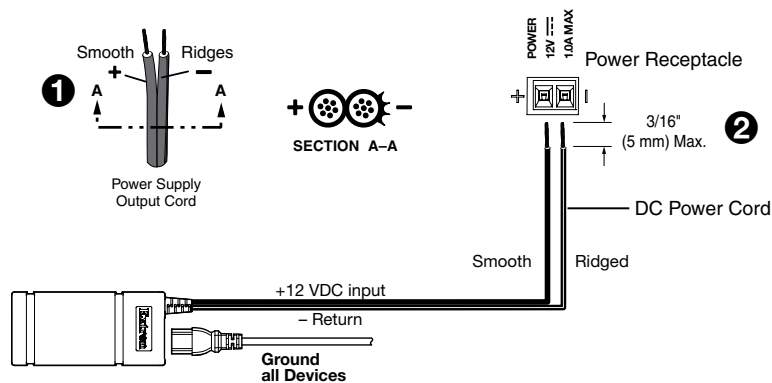

Figure 3. Connecting Power to the RCP 101
- To power the unit with a power supply, connect the power supply to this input. Ensure that the polarity of the wires is correct (figure 3, 1) and the wires are stripped correctly (2).